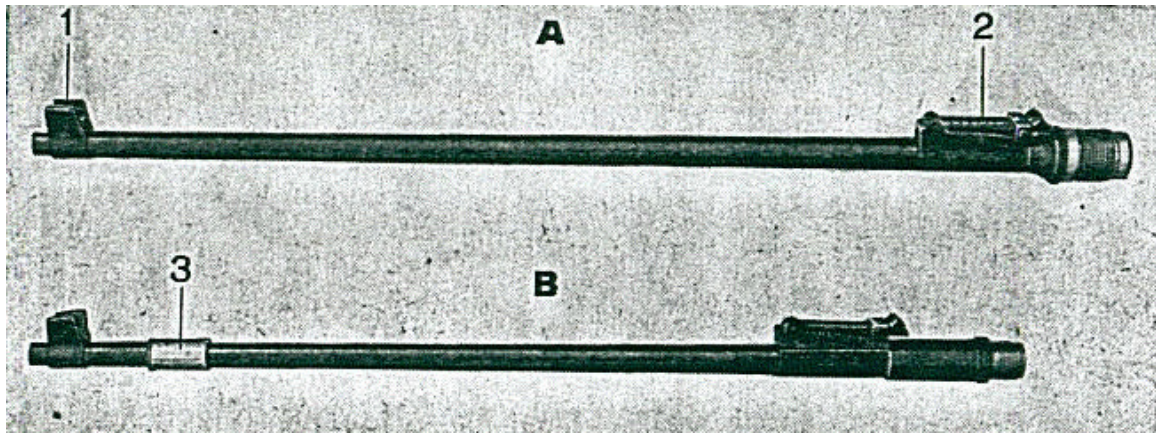
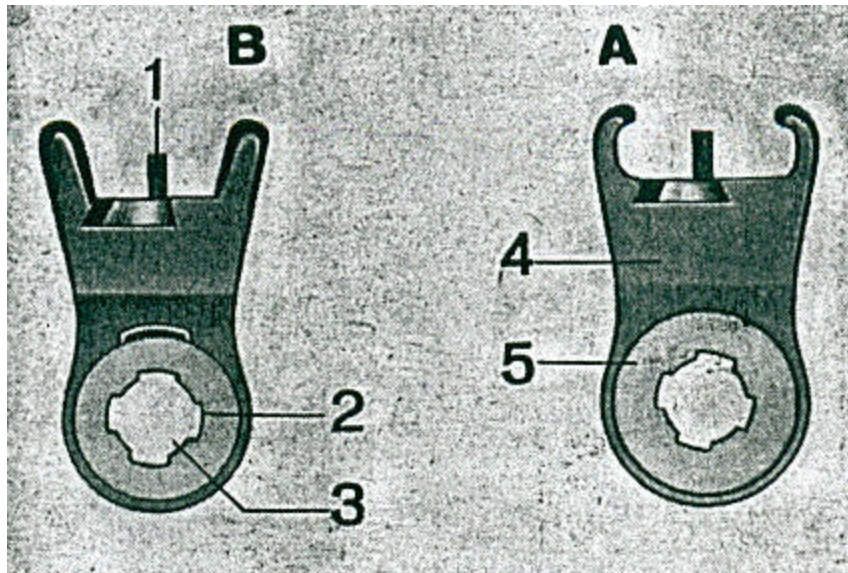

Figure 2
Figure 3
- The barrel, caliber 7.5 (fig. 2) with the sight mechanism. (figs. 3 to 5)